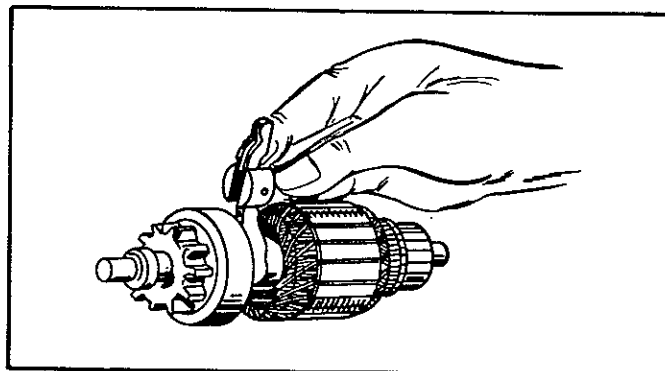

FIGURE 18-37. SHIFT LEVER INSTALLATION
3. Apply a small amount of Lubriplate on the shift lever pivot pin and lever holders. Install the shift lever over the clutch assembly with position indicated in Figure 18-37. This is important; if the shift lever is not properly positioned the pinion gear travel is restricted causing a locking in the clutch mechanism.